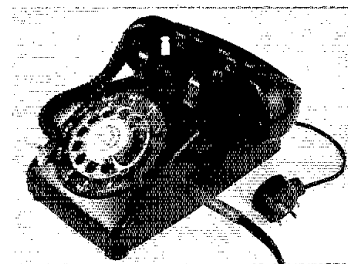
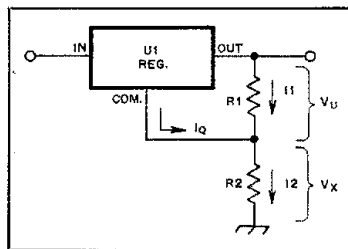

Fig. 1 — The QKP "interconnection" instrument. It contains voice coupler circuitry inside the case, and accepts a standard 1/4-inch plug.
Fig. 2 — Circuit for increasing the voltage output from a fixed-voltage regulator IC.
□ August 1977 *QST* Technical Correspondence contains information that I prepared on the subject of telephone interconnection arrangements.⁵ The new arrangement described there is designated QKP, shown in Fig. 1. Your readers will most likely not find it possible to obtain the QKP interconnection arrangement at their local telephone stores.
While observing Fig. 2, note the following analysis:
Colin Dickman, author of "The ZS6U Minishack Special," mentions that the errors in Figs. 1 and 2 of the version of his article appearing in *Radio ZS* were faithfully reproduced when the information was adapted for April 1981 *QST*. The numbers associated with the inductor windings refer to the tap points, not to the number of turns between taps. For example, Fig. 1, p. 32 of the *QST* article, should show a 20-turn coil with taps at 3-1/2, 5-1/4 and 8 turns from the right-hand end. Similarly, Fig. 2 should show a 34-turn coil with intermediate taps. Dickman's current address is 41 Eden Rd., Bramley, 2090 Tvl., Republic of South Africa.